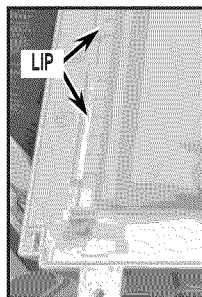

FIGURE 16
22. Attach new ice box cover to ice box using screws removed in step 20. Be sure to tuck new ice box cover under the lip on the ice maker assembly. See *Figure 16*.